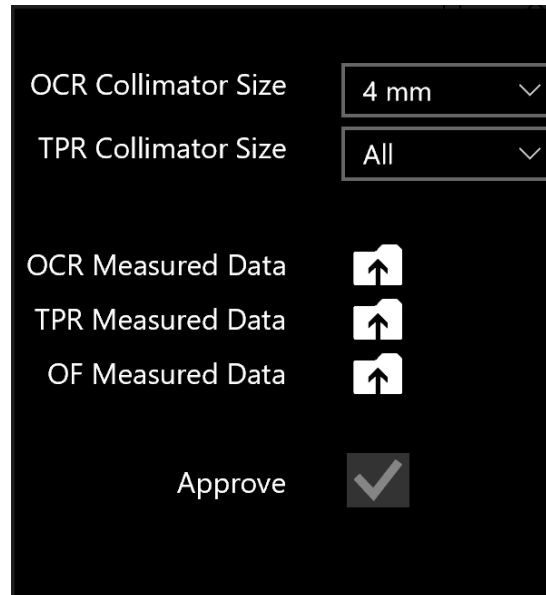

Figure 10.5: Uploading Measured Data
- Click the icon to the right of **OCR/TPR/OF Measured Data** (see Figure 10.5).